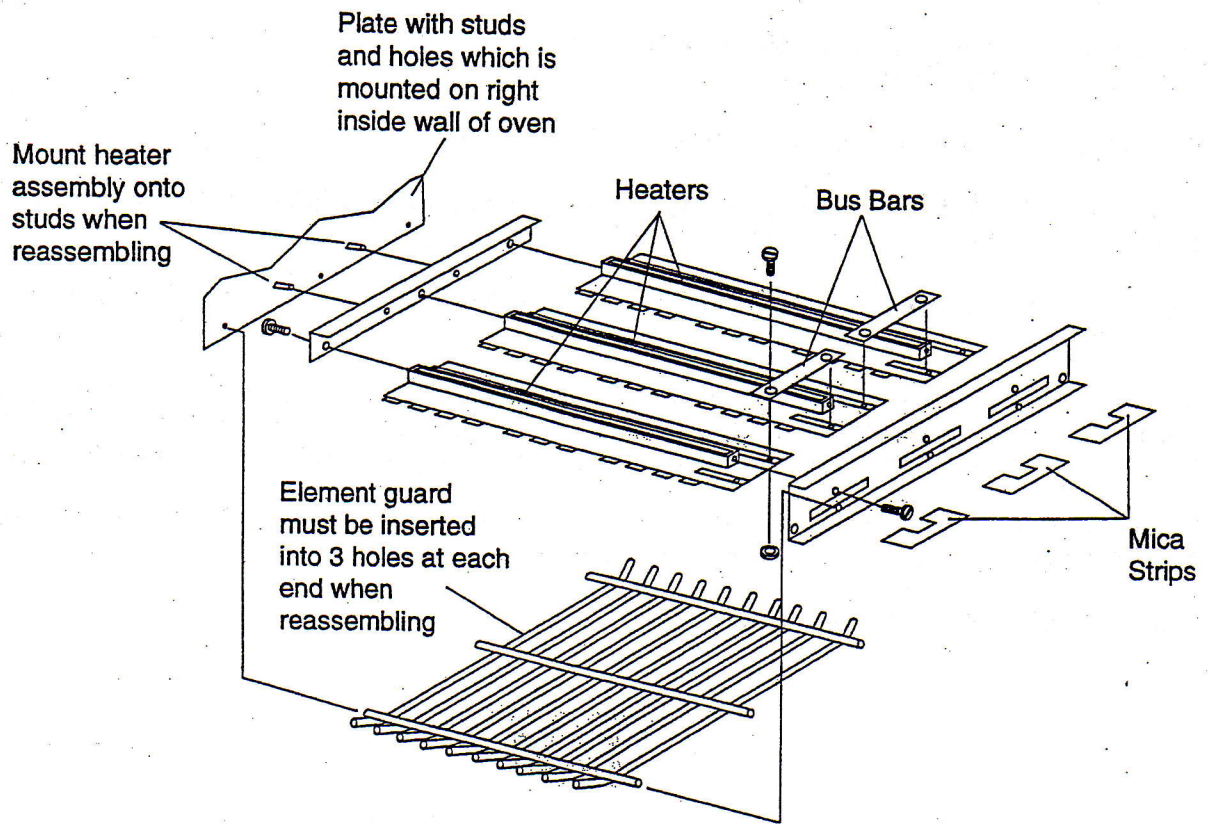

Figure 7
4. Remove the heater assembly from the toaster and then remove the bus bar(s) and the mica strip from the heater to be replaced. Refer to Figure 7.
6. Replace the heater with the new one and reassemble parts in the reverse order they were removed. Be sure to connect wires to heater terminals before sliding heater assembly all the way into toaster. Refer to Figure 7 to be sure heater assembly and element guard are mounted on studs and inserted into holes.